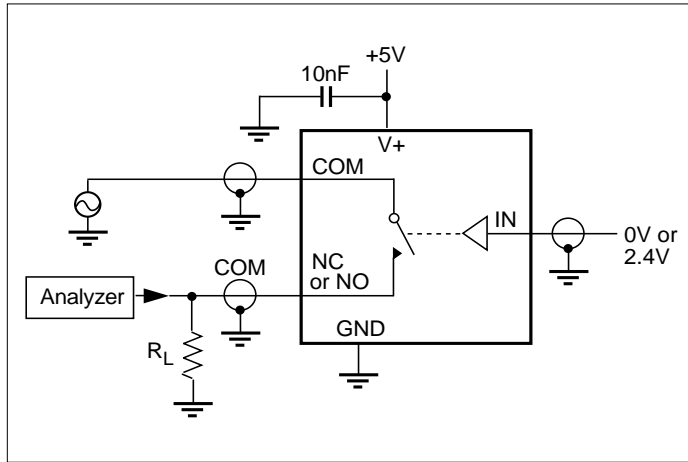

Figure 5. Off Isolation
7. Off Isolation = 20log₁₀ [V_{COM} / (V_{NC} or V_{NO})]. See Figure 5.